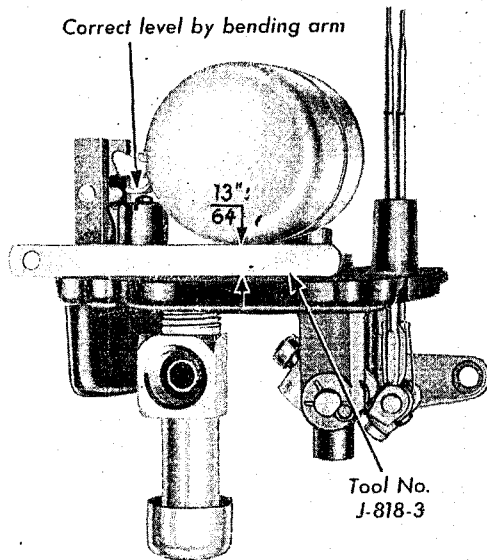

Fig. 59 Checking Float Level
3. Measure distance between metal rim for cover gasket and nearest point of float, as shown in Plate 43, Fig. 59.